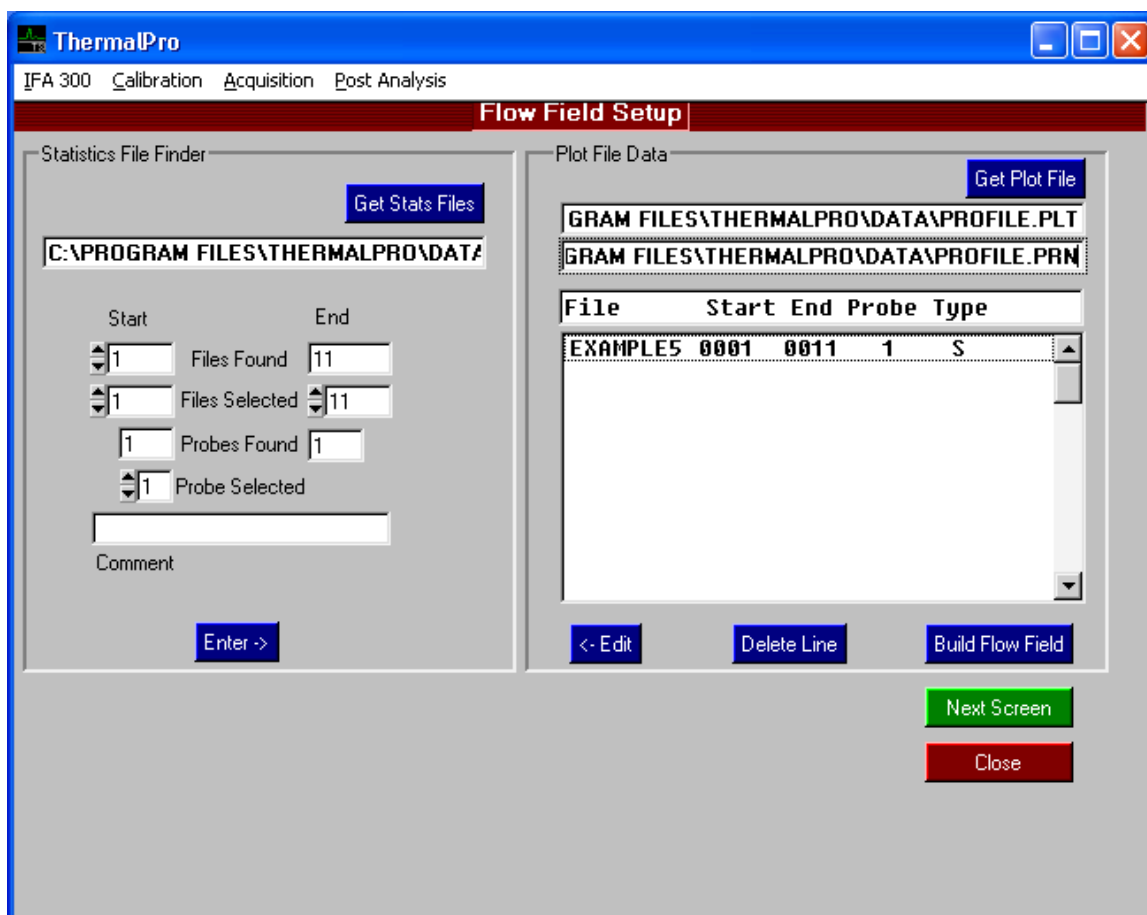

Figure 7-15
1. Select **Post Analysis** from the main menu and then **Flow Field** from the pull-down menu. The screen shown in Figure 7-15 appears.